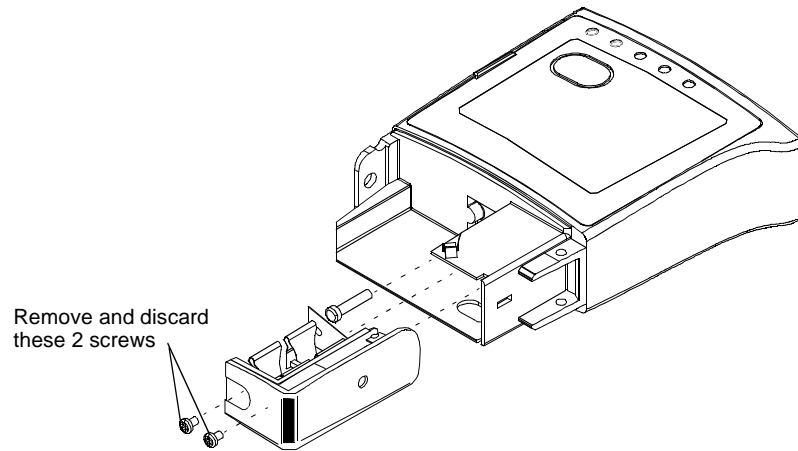
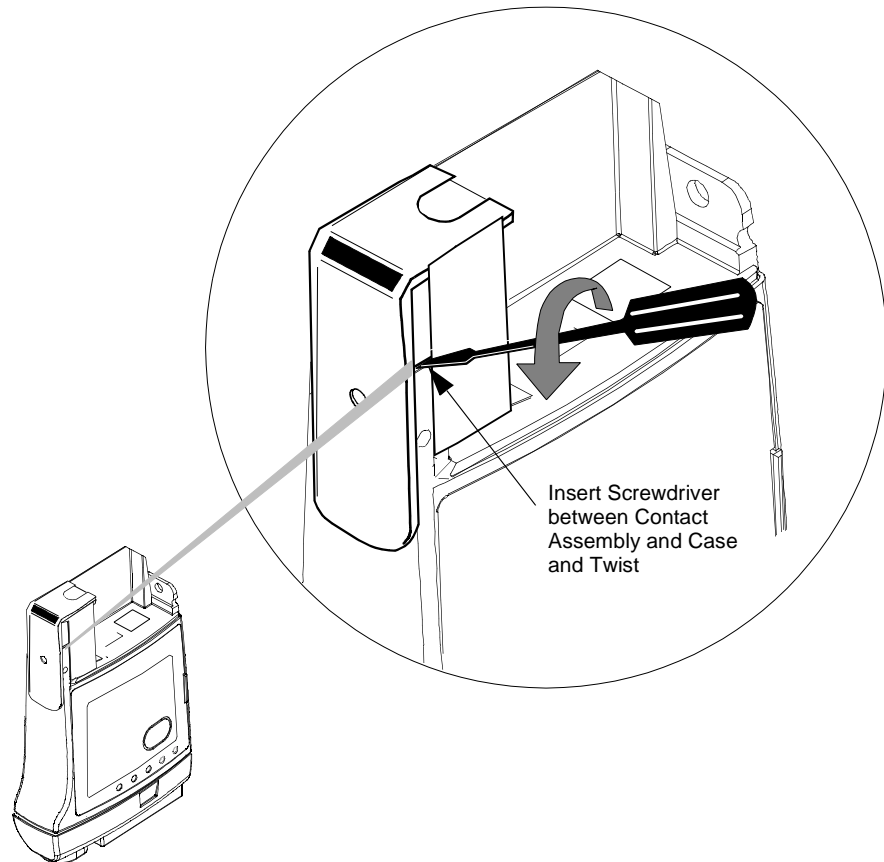

Figure 5-17 Removing the Battery Contacts
Figure 5-18 Removing the Battery Contact Assembly
To remove the Battery Contacts, do the following. See Figure 5-17 and Figure 5-18.
Step 4. Insert a small flat blade screwdriver into the opening between the contact cover and the case. See Figure 5-18.